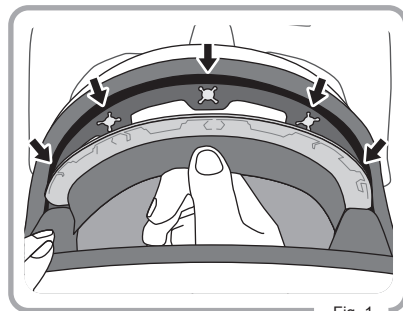

Fig. 1
1. Remove the snaps on the forehead area from the helmet by pulling down. (Fig.1)